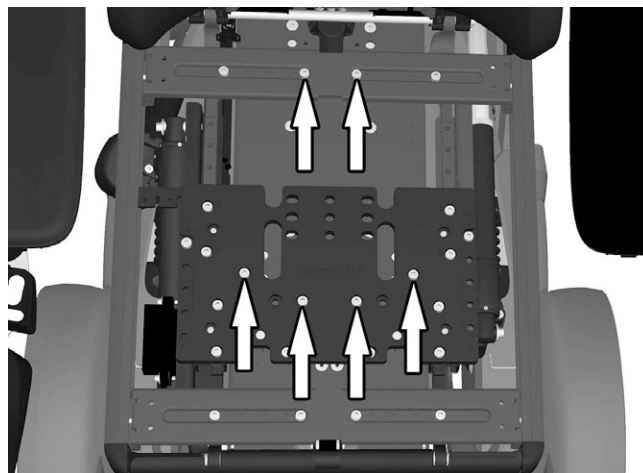
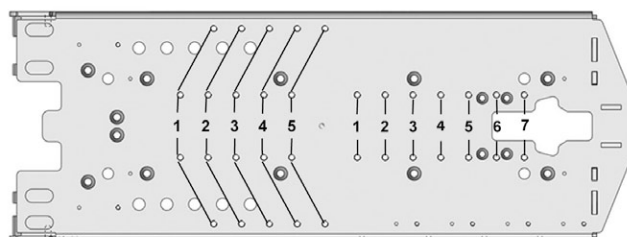

Figure 180. The seat is mounted with six screws.
Figure 181. The different mounting positions.
2. Mount the six screws holding the seat. See fig. 180. The seat can be mounted in different hole patterns pending on the seat depth setting. See fig. 181.